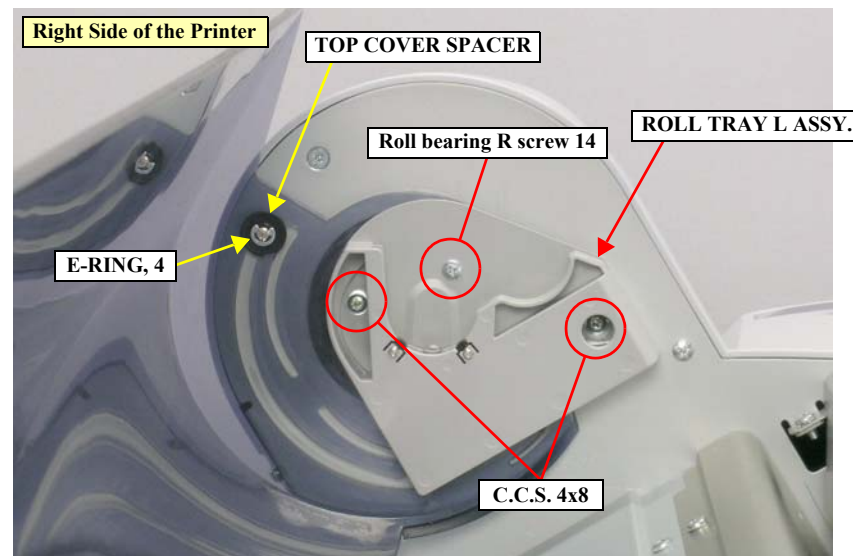

Figure 4-29. Removing the ROLL TRAY R ASSY.
3. Remove the E-RING, 4 that secures the TOP COVER SPACER and remove it. *See Figure 4-29.*
4. Remove the three screws that secure the ROLL TRAY R ASSY. and remove it. *See Figure 4-29.*